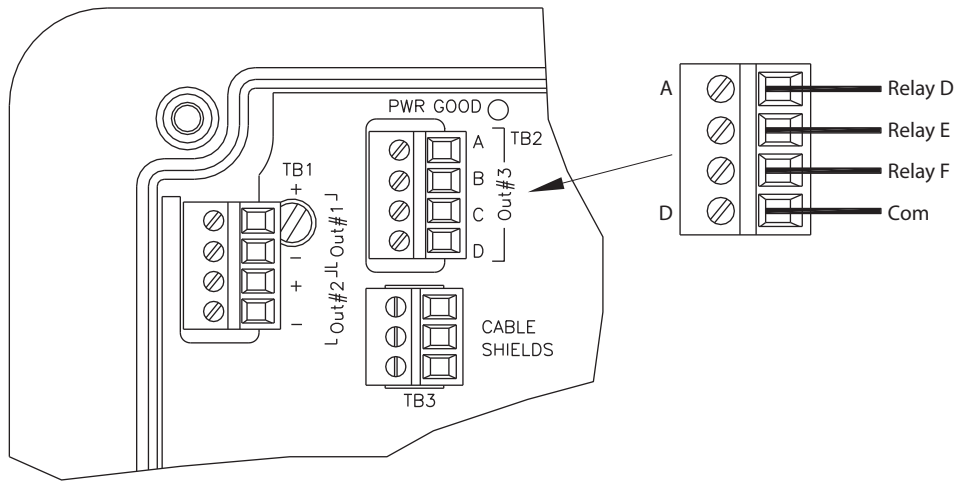
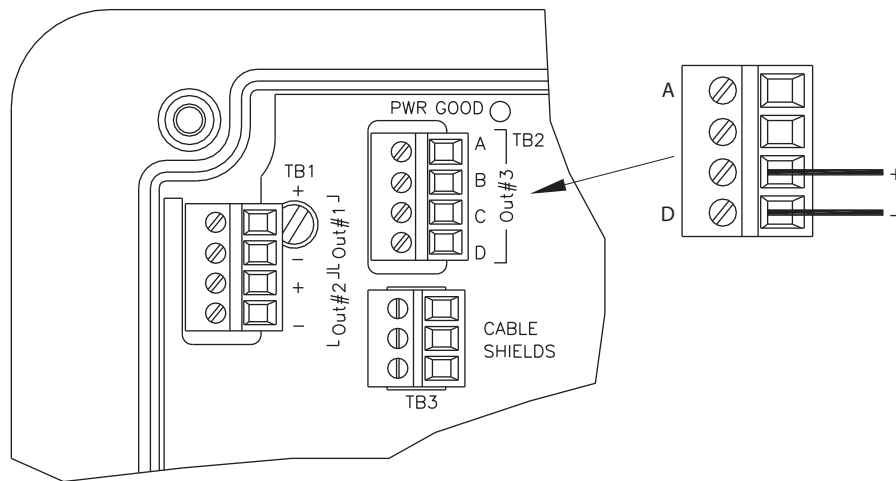

Figure 13: Optional relay board wiring
Figure 14: Optional analog output wiring
**TB2** is used to connect to the optional 3-relay card (*Figure 13*) **OR** the optional third analog output, Out#3 (*Figure 14*). The Q46 can be configured for only one of these optional features, and the hardware for either option must be factory installed.